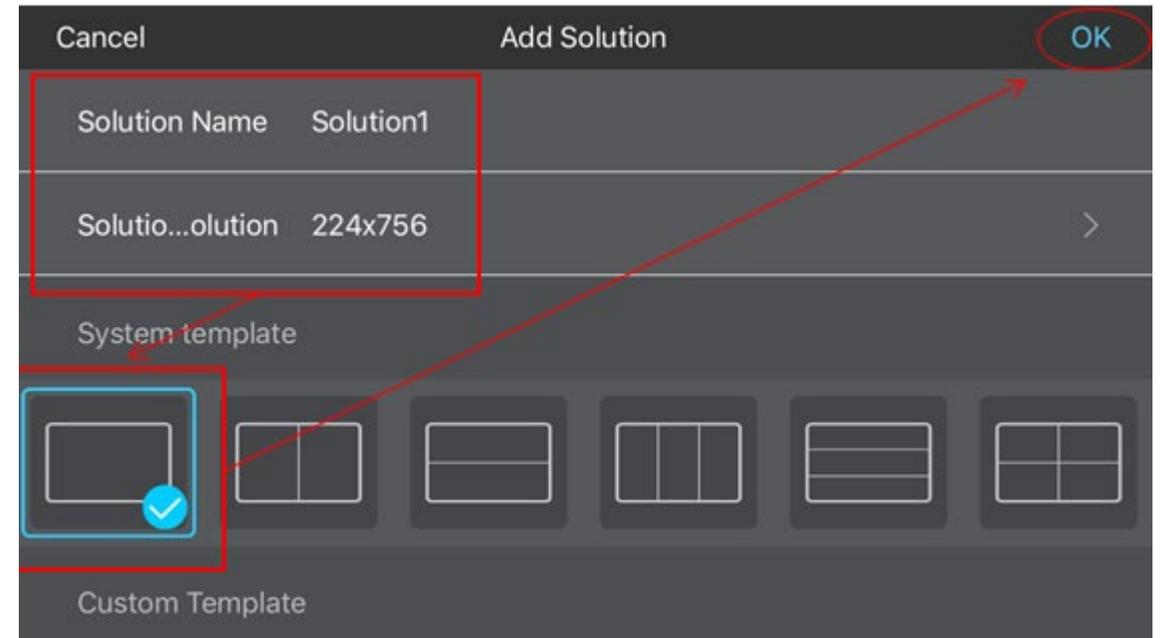

fig 7.16
- d. Select one template for the poster in [System template], please refer to fig7.16.